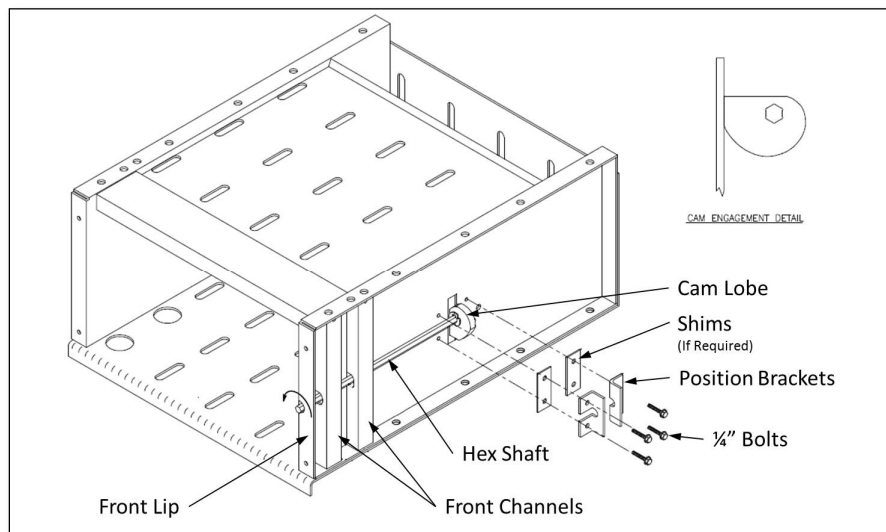

Figure B-1 Cam Assembly Diagram
- 1) Slide hex shaft through front lip of side flange & front channels See Figure B-1